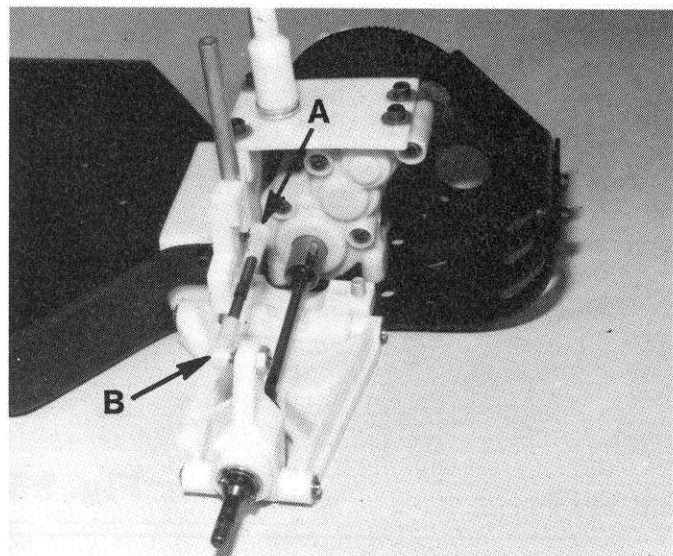

Fig. 89
□ **Fig. 89** Put the strut (A) onto the ball on the bulkhead. Put the half-shaft into the slot. Put the strut (B) on the ball in the hub carrier. It should look like fig. 89 now.